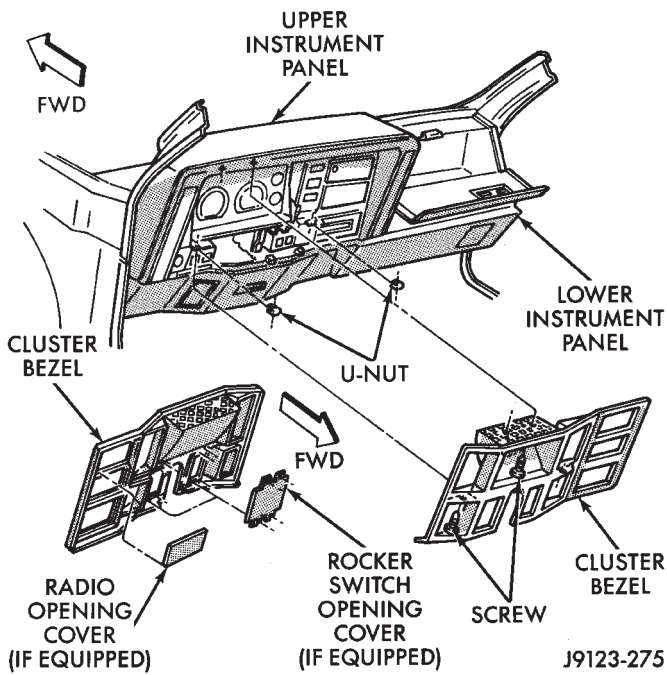
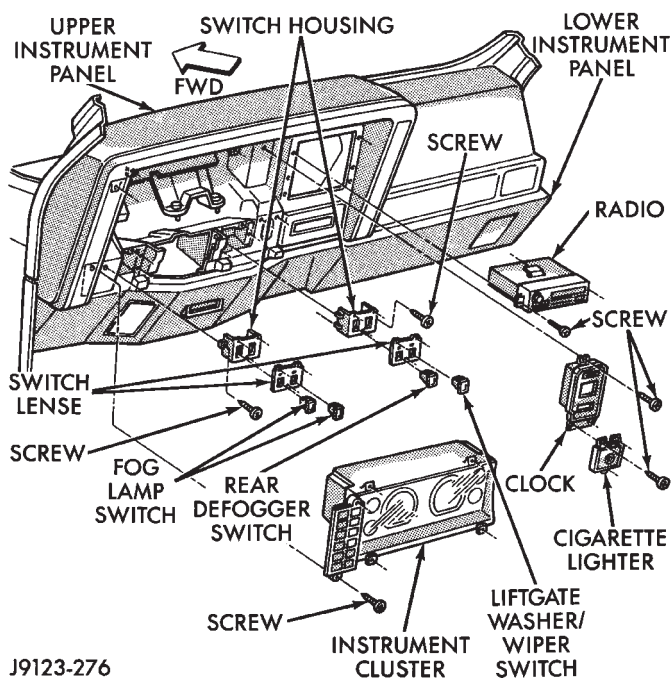

Fig. 3 Instrument Cluster Bezel
Fig. 9 Instrument Cluster and Other I/P Components INSTALLATION
(1) Remove the screws and instrument cluster bezel from instrument panel (Fig. 3).
(2) As applicable, remove the instrument cluster or other I/P component screws.
(3) Disconnect wire harness connector(s) from cluster or other I/P component. Refer to Group 8—Electrical.
(4) Remove the cluster or other I/P component from the upper section of instrument panel (Fig. 9).